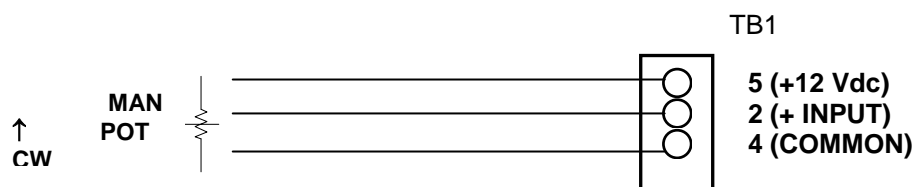

Figure 3-2. Remote Control with a Potentiometer
- a. With the power to the 2Z turned off, connect the potentiometer as shown in Figure 3-2. The CW position is the full power output position. Terminal TB1-5 is internally connected to a positive dc voltage source.